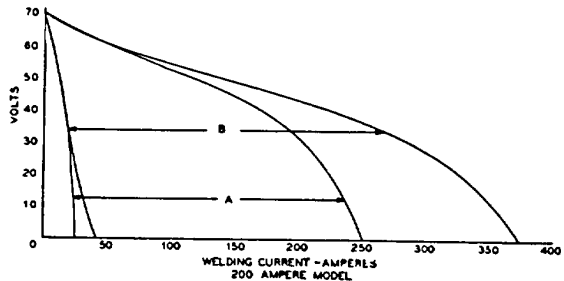

Figure 10- Volt- Ampere Curves
8. VOLT-AMPERE CURVES (Figure 10)
With reference to the volt-ampere curves (Figure 10) the High range (B) or Low range (A) show the arc voltage and welding current for the maximum and minimum settings of the Weld Current Control only. Curves for other settings will fall between the maximum and minimum curves for that particular current range.